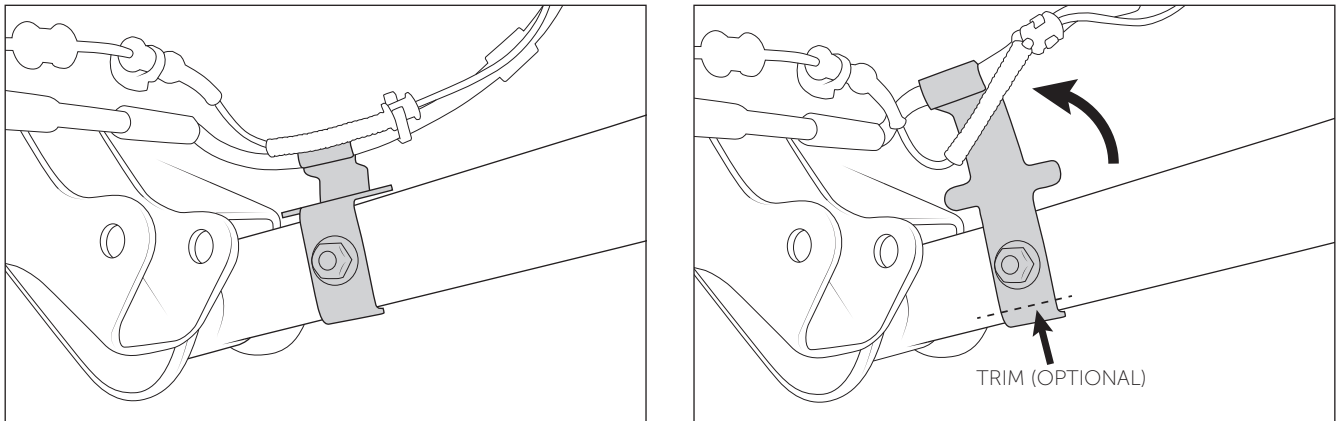

Figure 19: Before (left) After (right)
7. Bend brake line brackets on lower control arms flat/up to allow extra travel relative to frame (Fig 19). On vehicles that will be rock crawling, AEV suggests trimming off the bottom tab of these brackets below the mounting hole to eliminate a snag point.